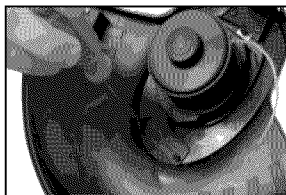

Figure 7 - Insert two mounting screws
5. Insert two mounting screws into holes at back of cutting guard. (See Figure 7)